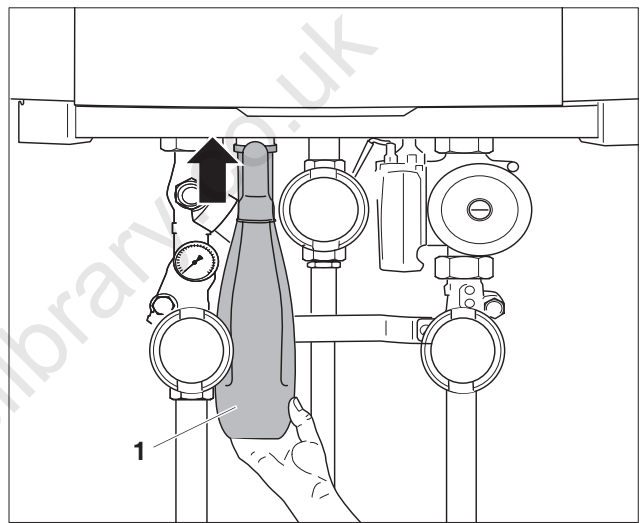

fig. 17 Installing the condensate trap
- Connect the condensate trap (fig. 17, **item 1**) to the condensate drain outlet (CDO).